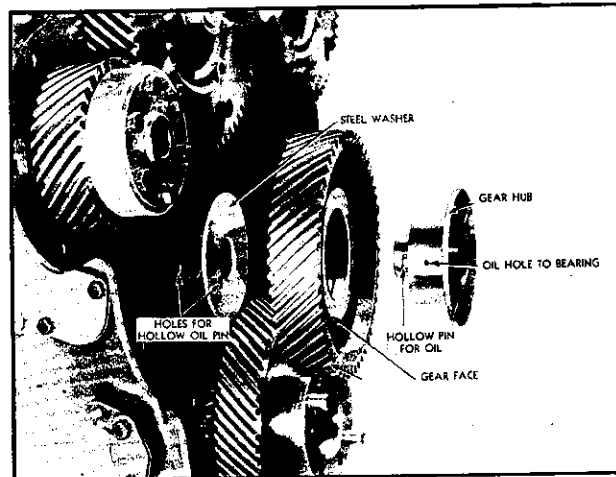

Fig. 6—Idler Gear Mounting Details.
**Install Idler Gear and Spacer**—Before installing idler gear, refer to Fig. 6, which shows relative position of each part.